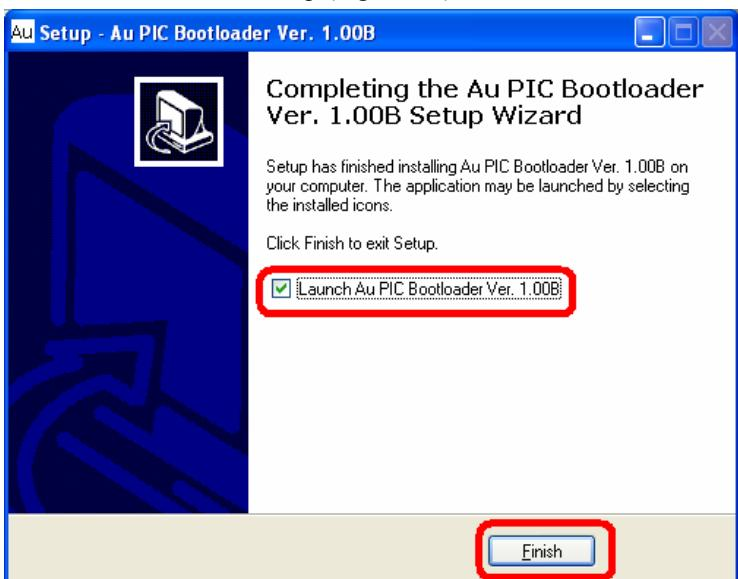

Figure C-8
8. After a few seconds, “Completing the Au PIC Bootloader Setup Wizard” window shows up, check “launch Au Bootloader”, click “Finish” to exit setup (Figure C-8).